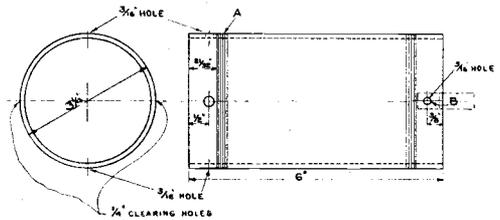

Fig. 1. Arrangement of tuning coils.
coils in position should be drilled before they are wound. These details are set out in Fig. 1, which also shows the position of the commencement of the winding in relation to these holes. The diagram in Fig. 1 gives the positions of the two holes for the spindles required in one of the tubes. In the other tube these two $\frac{1}{4}$ in. holes can be omitted. The first turn (A) of the winding should be put on as close up to the side of the spindle hole as possible, so as to obtain sufficient